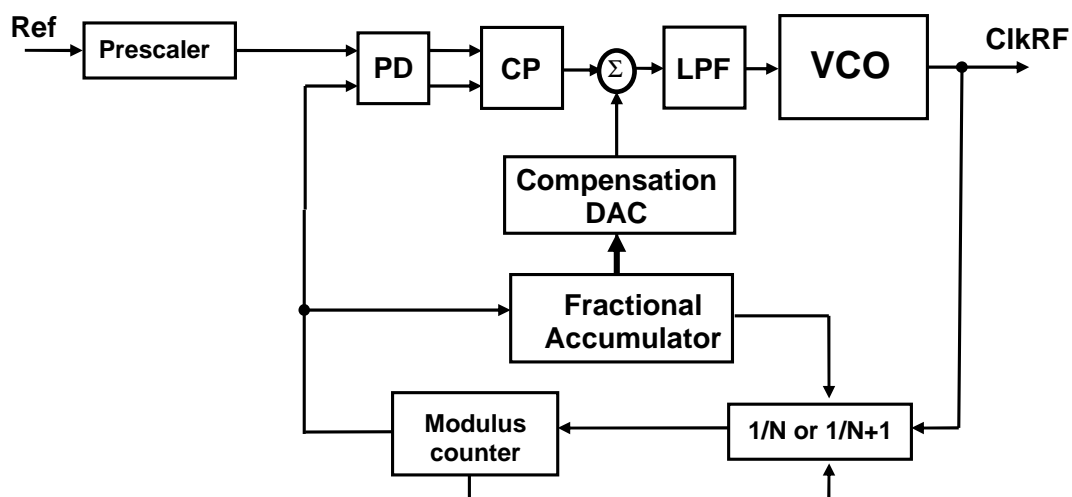

Figure 1: Block diagram of PLL-based BFSK modulator
A block schematic of a fractional dividing PLL is shown in Figure 1. The PLL will receive a reference clock (Ref) from an external source (crystal or other). A phase-detector (PD) will compare the phase of the reference with the divided version of the RF clock ($CikRF$). The outputs of the phase detector are up/down signals. The up/down signals controls a charge-pump (CP) that outputs a current-pulse, whose pulse-width is proportional to the phase-error. The current-pulse is filtered in a loop-filter (LPF), which results in a control-voltage that is controlling a voltage-controlled oscillator (VCO). Based on the control voltage the frequency of the signal $CikRF$ is changed. The “ $1/N$ or $1/N+1$ ”-block and the “Modulus counter” block divides the RF signal with an integer value. The fractional accumulator change the division value to create a divided frequency that on the average is a fractional value. The compensation DAC compensates for phase errors that will appear because of the fractional division.